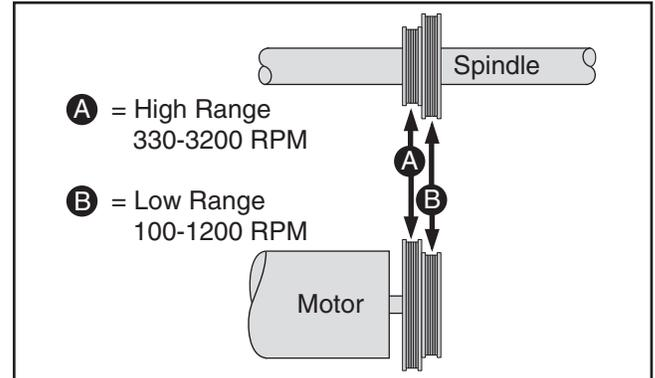

Figure 31. Speed range belt positions.
5. Reach into belt access cavity and roll belt onto desired set of pulleys, as shown in Figure 31.
- Select the right speed for the size of workpiece that you are turning (refer to **Figure 31** on **Page 28**).